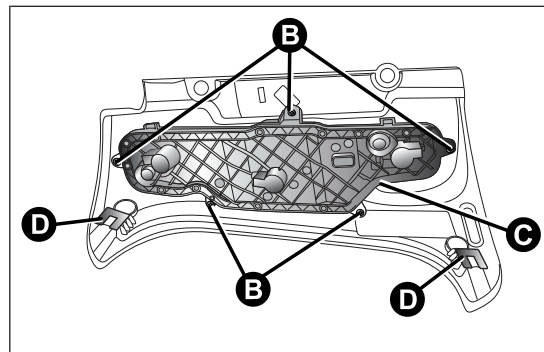

fig. 134
- ☐ undo the five screws B from their seats and remove the bulb holder C fig. 134;